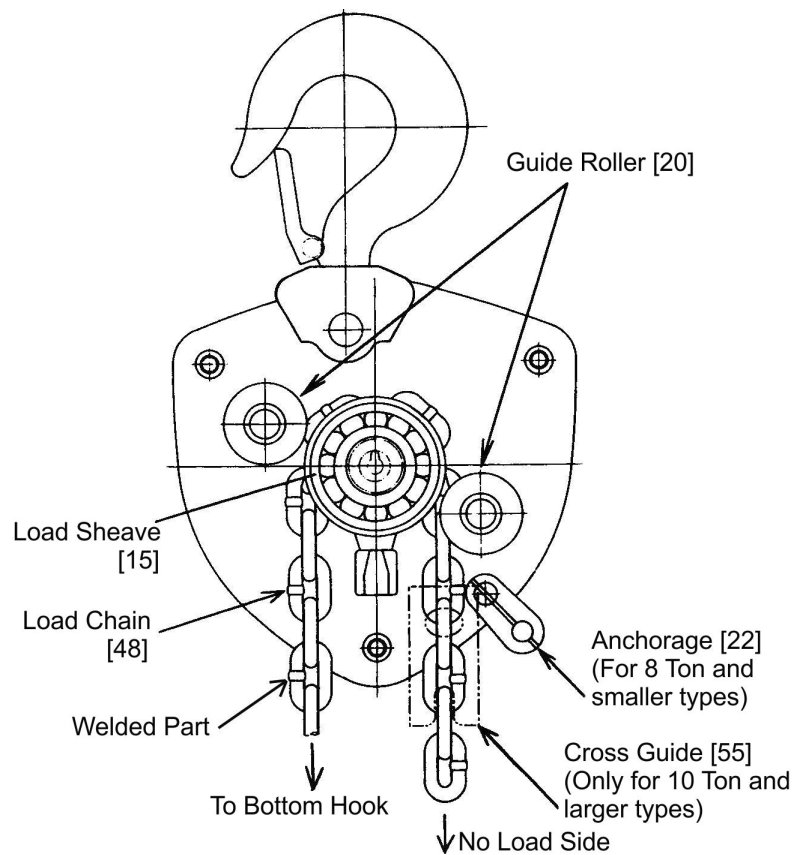

Figure 6-6 Reeving Assembly
- 13)** Reeve the load chain [48] turning the pinion clockwise through the space between the left (bottom hook side) guide roller [20] and the load sheave [15]. See figure 6-6.